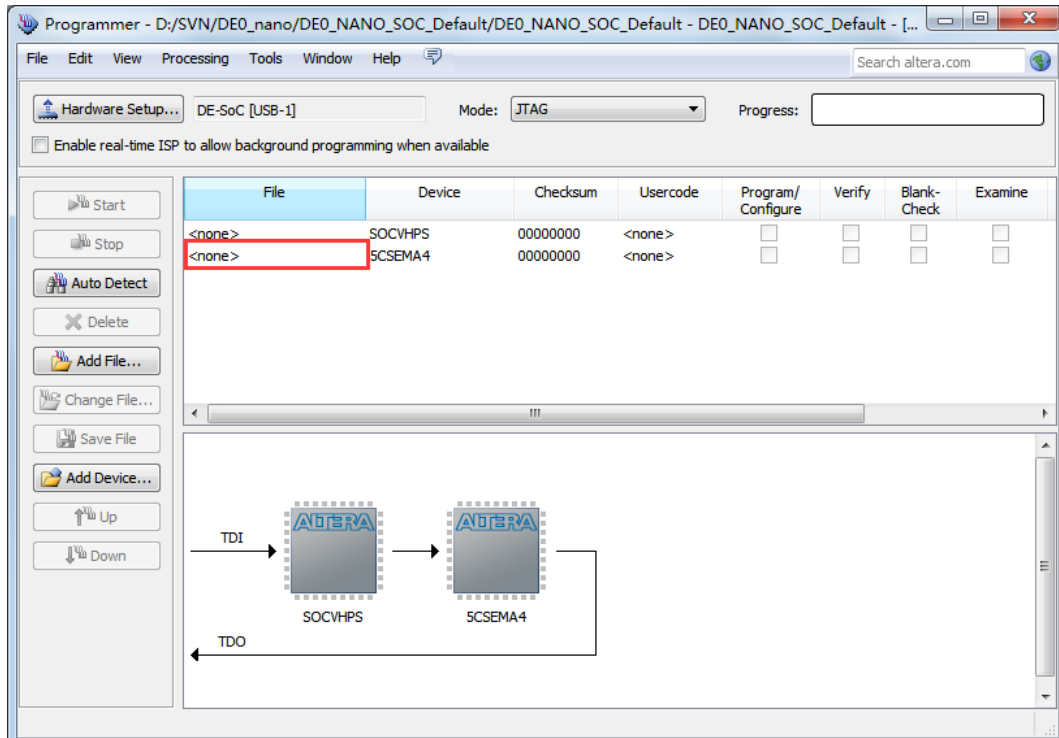

Figure 8-7 Two devices are detected in the Quartus II Programmer
3. Click **Auto Detect** and then select the correct device(5CSEMA4). Both FPGA device and HPS should be detected, as shown in **Figure 8-7**.
4. Double click the red rectangle region shown in **Figure 8-7** and the **Select New Programming File** page will appear. Select the .jic file to be programmed.
3. Click **Auto Detect**, and then select correct device, both FPGA device and HPS will be detected. (See **Figure 8-7**)
4. Double click the red rectangle region shown in **Figure 8-7**, and the **Select New Programming File** page will appear. Select the correct .jic file.